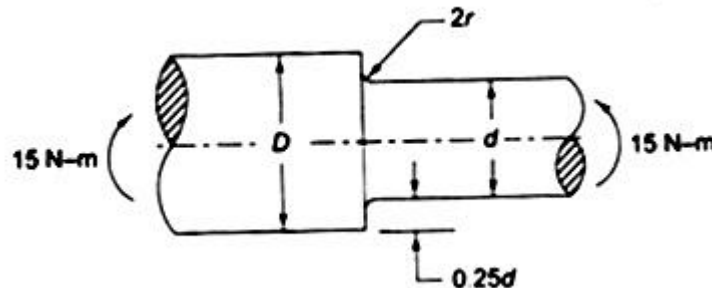

Figure 1
- b) A round shaft made of brittle material and subjected to a bending moment of 15 N-m is shown in below figure1. The stress concentration factor at the fillet is 1.5 and the ultimate tensile strength of the shaft material is 200 N/mm2. Determine the diameter  $d$ , the magnitude of stress at the fillet and the factor of safety. (8M)